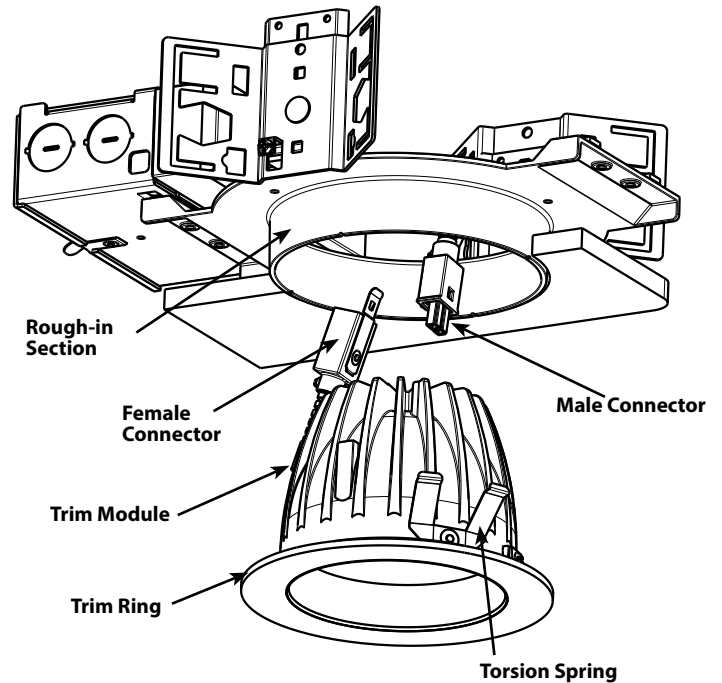

Fig: 3
1. Pull **Female Connector** conduit through frame opening. Raise **Trim Module** towards opening and connect to **Male Connector** conduit as shown in Fig. 3.